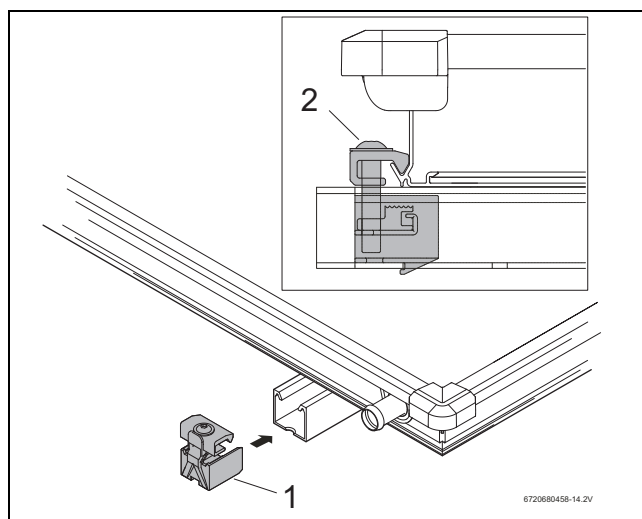

Fig. 44 Side collector tensioner on the left
- Push the side collector tensioner (Fig. 44, [1]) into the ends of the upper and lower profile rails.
- Push the collector tensioner up against the collector frame and secure in place with a size 5 spanner (Fig. 44, [2]).